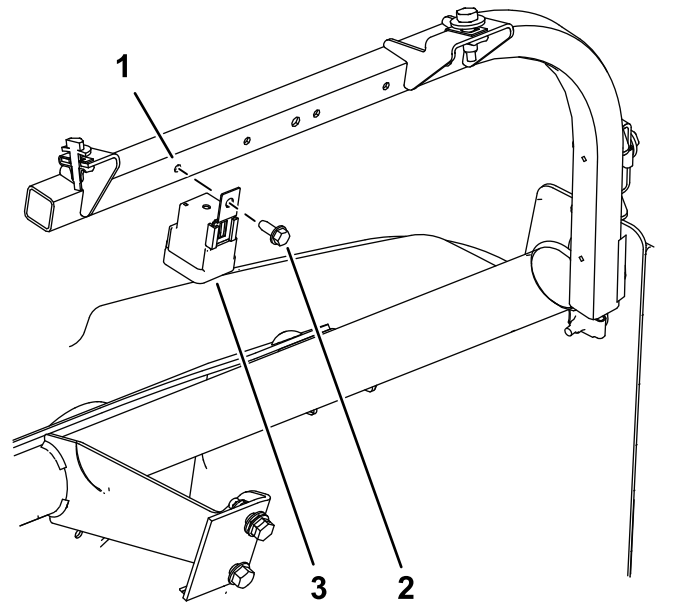

Figure 14
1. Install the relay (single location) to the dash-support tube with the bolt (1/4 x 5/8 inch) at the pre-drilled hole on the left (Figure 14).